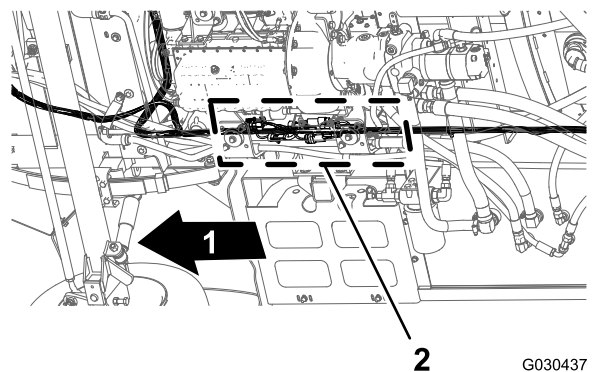

Figure 113
1. From under the machine along the right frame tube, locate the electrical connectors for the front and rear wire harnesses of the machine (Figure 113).